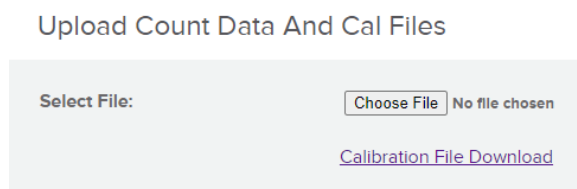

Figure 20: Upload Count Data and Cal Files window
1. In the GeoMx DSP Control Center, click on **Data Collection** then **Upload Counts/Cal Files**. The **Upload Count Data and Cal Files** window opens (see Figure 20).